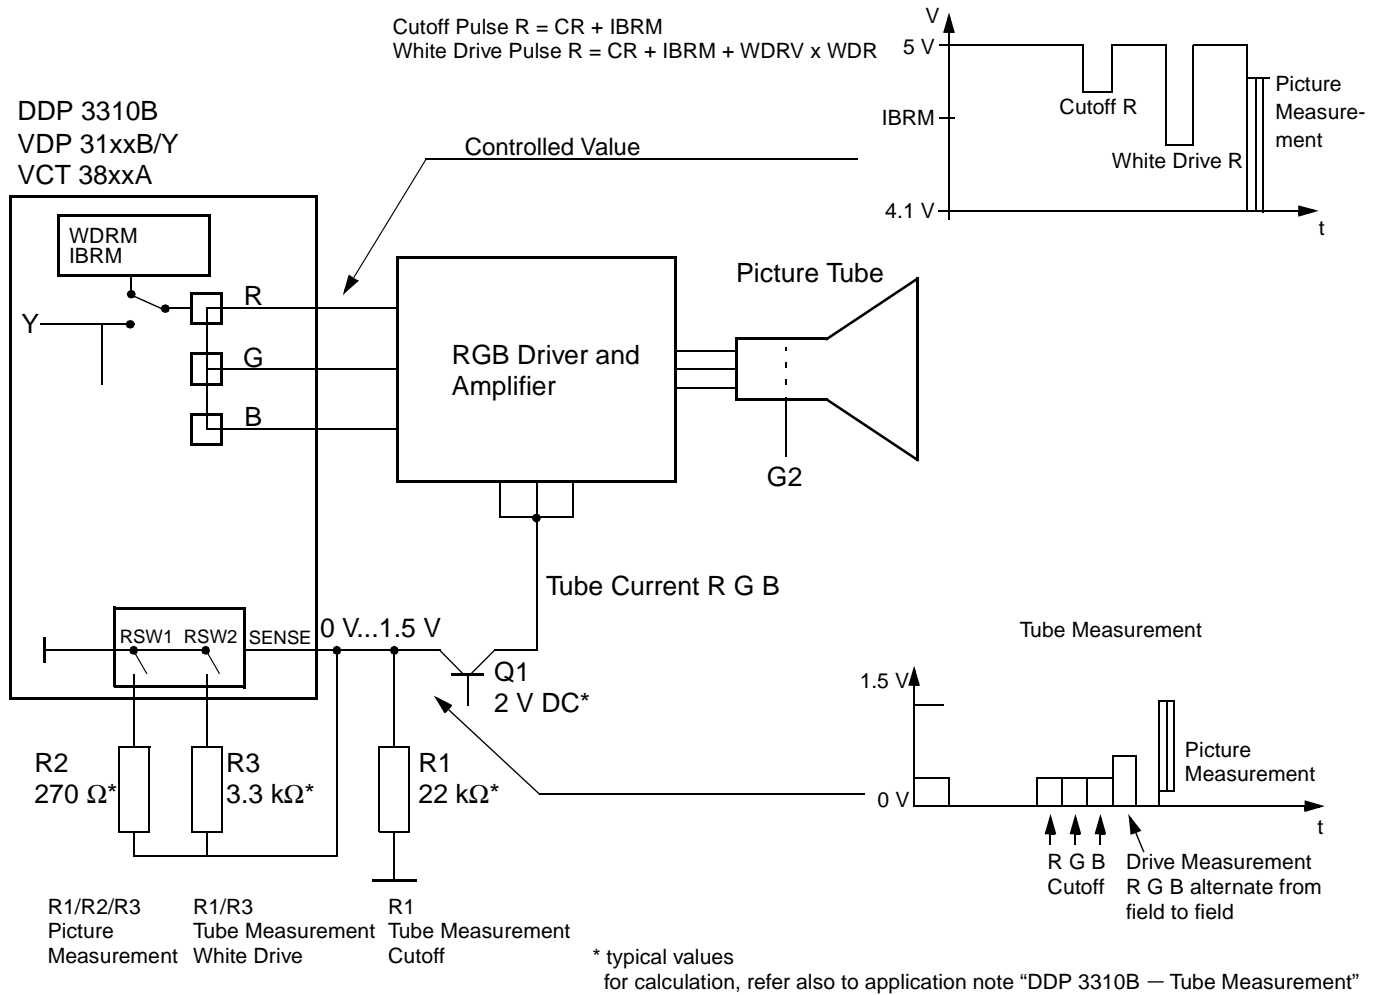

Fig. 4–1: Block diagram of the CRT measurement and control circuit
- Fig. 4–1 on page 8: Resistor (tube current) removed